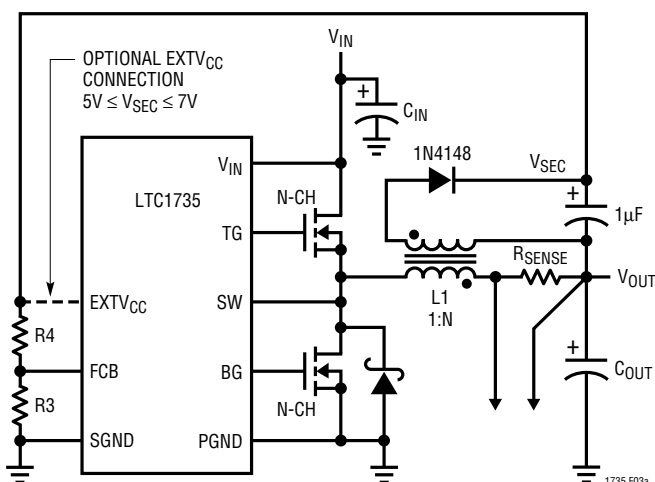
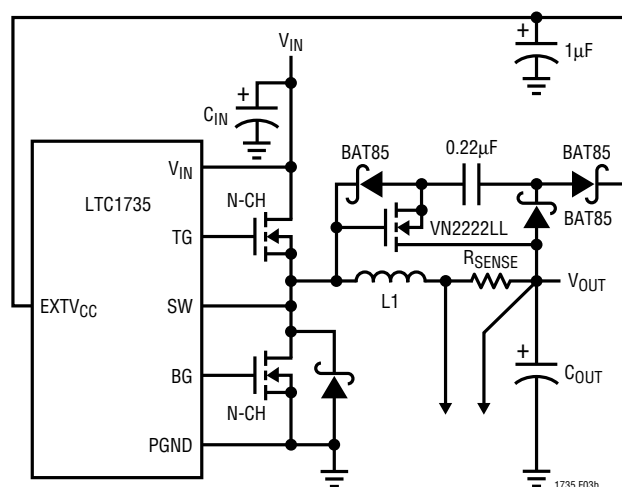

Figure 3a. Secondary Output Loop and $EXTV_{CC}$ Connection
Figure 3b. Capacitive Charge Pump for $EXTV_{CC}$
3. EXTV_{CC} connected to an output-derived boost network. For 3.3V and other low voltage regulators, efficiency gains can still be realized by connecting EXTV_{CC} to an output-derived voltage that has been boosted to greater than 4.7V. This can be done with either the inductive boost winding as shown in Figure 3a or the capacitive charge pump shown in Figure 3b. The charge pump has the advantage of simple magnetics.
The secondary output voltage V_{SEC} is normally set as shown in Figure 3a by the turns ratio N of the transformer: